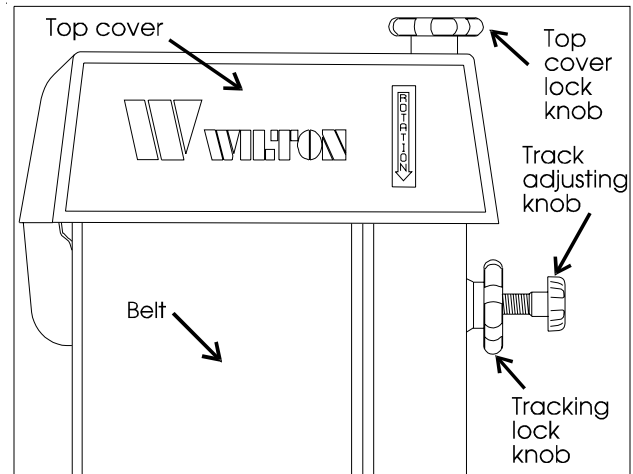

Figure 6: Top cover components
2. Remove the lock knob and top cover (See Figure 6).